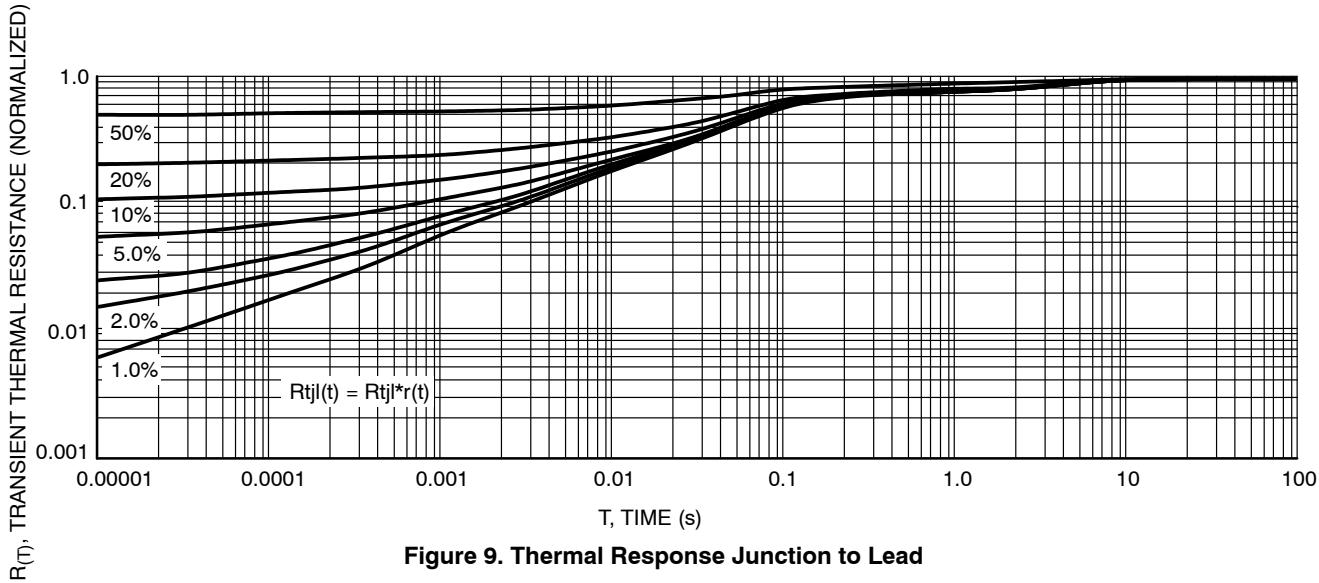

Figure 9. Thermal Response Junction to Lead
1. Mounted with minimum recommended pad size, PC Board FR4, See Figures 9 & 10.